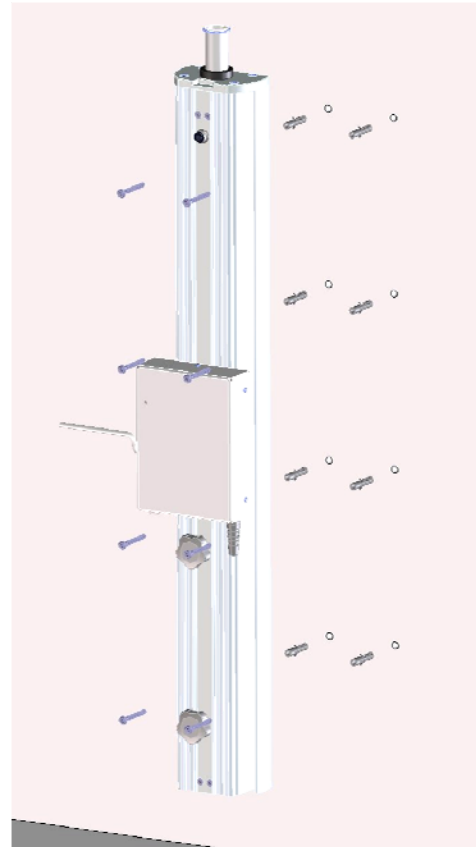

Figure 19: Attaching the support
c) Then screw on the support rail using the accompanying screws (6 x 60) and a Phillips screwdriver (figure 19). Ensure during this process that the cable conduits are not damaged. Then re-affix the cable covers to the support rail (figure 17).